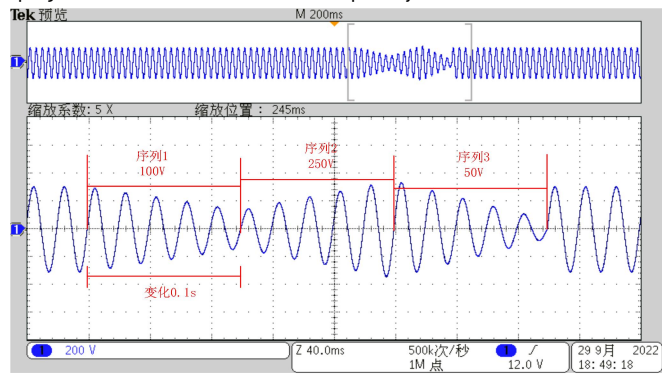

Figure 75 Wave Programming Waveform Example Diagram 1
- 4) Click 'Trigger' to display the programmed waveform on the oscilloscope (only the $\Phi 1$ waveform is shown here); see Figure 75.